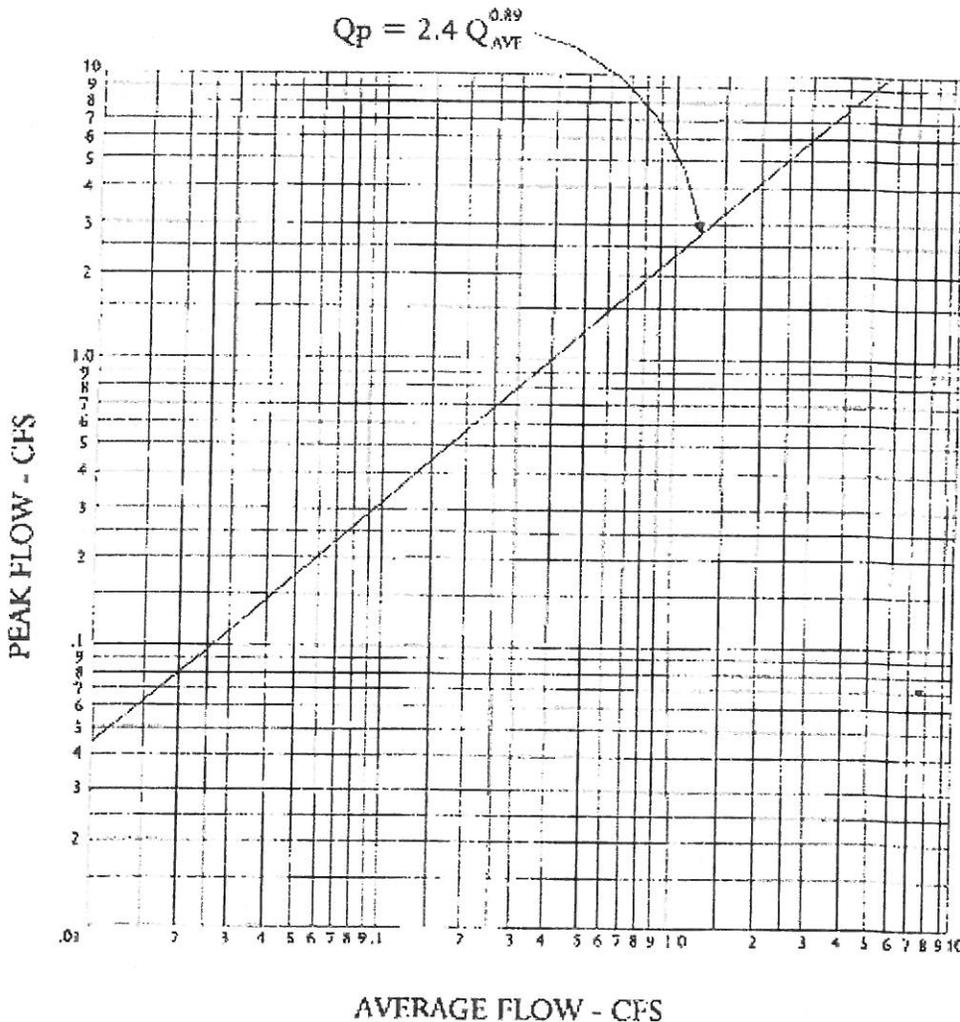

Figure 4-4
- (b) Capacity design standards. The design of residential sanitary sewers shall be based upon an average daily flow of 110 gallons per day per capita and an occupancy factor of three (3) persons per dwelling unit. The peak flow shall be the design flow and shall be determined by the formula plotted on Figure 4-4. All sanitary sewers having an internal diameter of less than twelve (12) inches shall be designed to have a flow depth of one-half of the internal diameter, or less, under design flow conditions. All sanitary sewers having an internal diameter of twelve (12) inches or greater may be designed to have a depth of flow of three-fourths of the internal diameter, or less, under design flow conditions. The only exceptions to such requirements shall be inverted siphons and force mains.
The average daily flow rates for uses other than residential shall be determined by the City Engineer from Table 4-2. If the precise type of land use is not known, the average sewerage flow shall be determined from Table 4-3. Peak flows shall be determined by the formula shown on Figure 4-4.